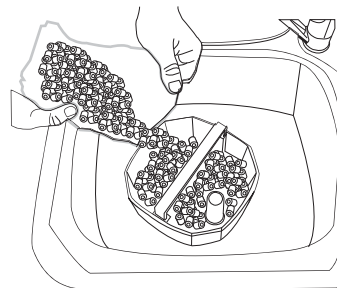

Fig 4
6. Follow the filter media setup instructions on the previous page which apply to your filter. Remember to remove all media from the plastic bags and rinse in tap water to remove excess dust. The simplest way to do this is empty the correct media into its basket and run tap water through it. Rinse the inside of the canister body in tap water. DO NOT USE ANY SOAPS OR DETERGENTS. Fig 4